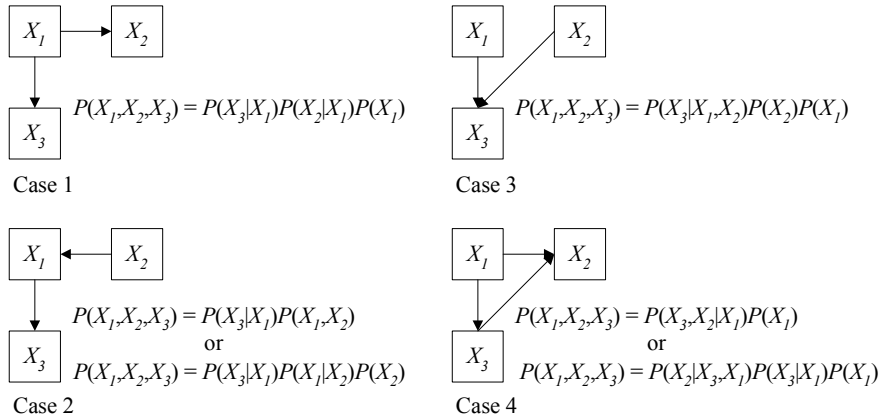
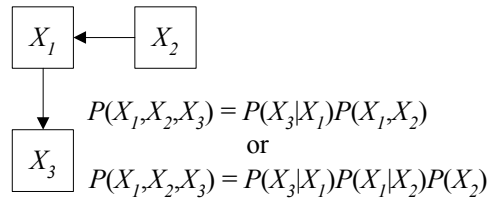

Figure 12. Conditional Probabilities for Representing Directed Arcs
Figure 13. Arc Reversal and Effects on Conditional Probabilities
4. Assess the prior probabilities by supplying the model with numeric probabilities for each variable in light of the number of parents the variable was given in Step 3. Use conditional probabilities to represent dependencies as provided in Figure 12 for demonstration purposes. The figures also show the effect of arc reversal on the conditional probability representation. The first case show that X_2 and X_3 depend on X_1 . The joint probability of the variables X_2 , X_3 , and X_1 can be computed using conditional probabilities based on these dependency as follows:
The result for Case 1 is shown in Figure 12. Case two displays different dependencies of X_3 on X_1 and X_2 leading to the following expression for the joint probabilities as shown in Figure 12:
The models for Cases 3 and 4 are shown in Figure 12 and were constructed using the same approach. The reversal of arc changes the dependencies and conditional probability structure as illustrated in Figure 13. Bayesian tables and probability trees can be used to represent the dependencies among the variables. A Bayesian table is a tabulated representation of the dependencies, whereas a probability tree is a graphical representation of multi-level dependencies using directed arrows similar to Figure 12. The examples of the end of this section illustrate the use of Bayesian tables and probability trees for this purpose.